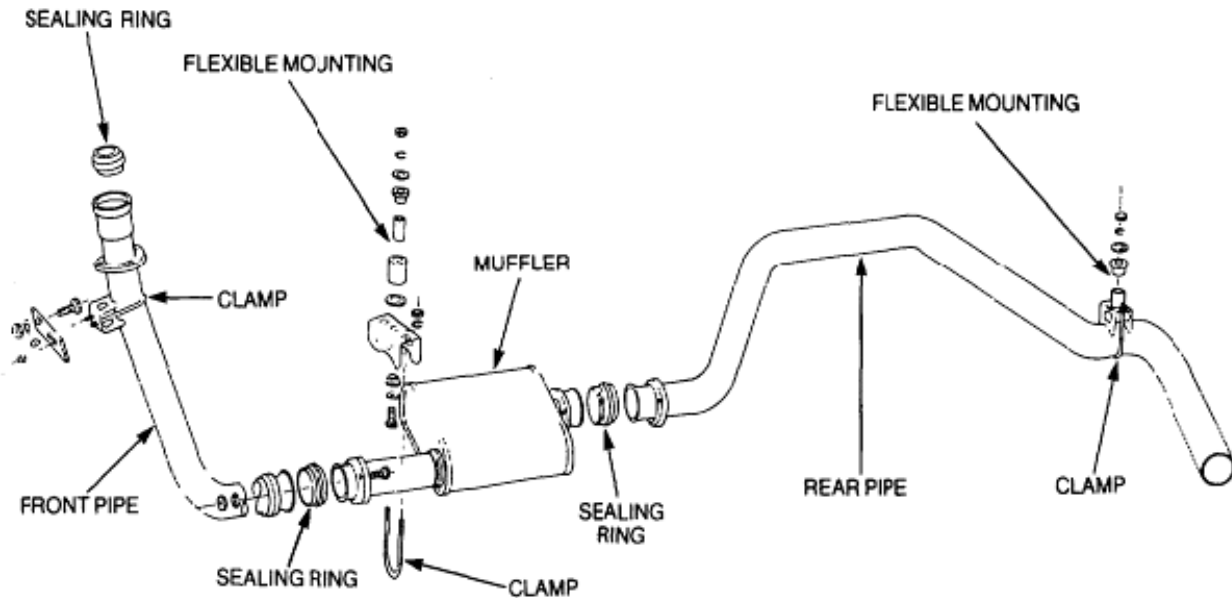

Figure 22 Exhaust System Exploded View
- a. Remove the three nuts and washers securing the front exhaust pipe to the exhaust manifold (Figure 22).
- b. Secure the muffer to the flexible coupling with the clamp (Figure 22).